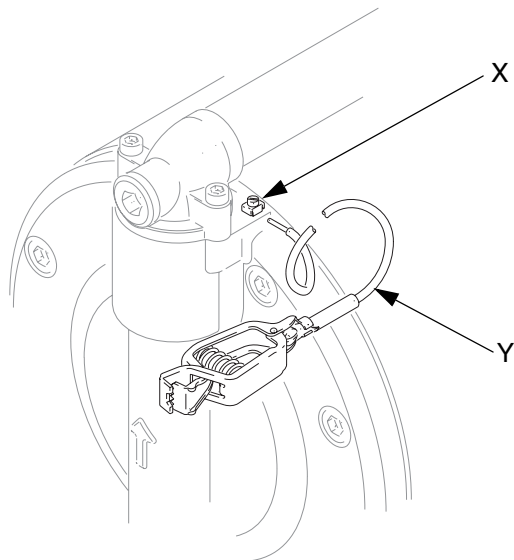

FIG. 4. Grounding the Pump
- *Pump:* use a ground wire and clamp. See FIG. 4. Loosen the grounding screw (X). Insert one end of a 1.5 mm² (12 ga) minimum ground wire (Y) into the pump's grounding clamp (8) and tighten the screw (X) securely. Connect the other end of the wire to a true earth ground. For a ground wire and clamp, order Part No. 238909.